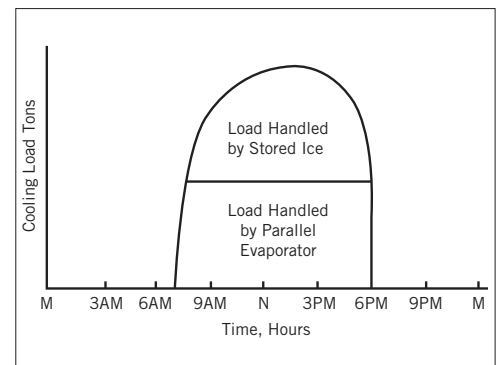

Figure 14
2. Determine the cooling capacity in tons of the compressor operating with the parallel evaporator (**Figure 14**) during the cooling load hours established in Step 1.